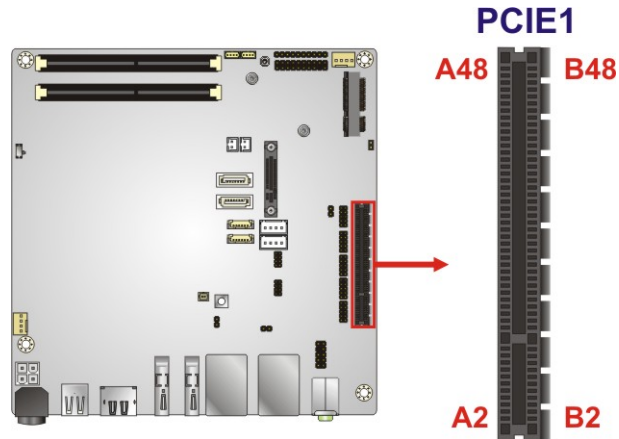

Figure 3-16: PCIe x1 Slot Location
- CN Location:** See **Figure 3-16**